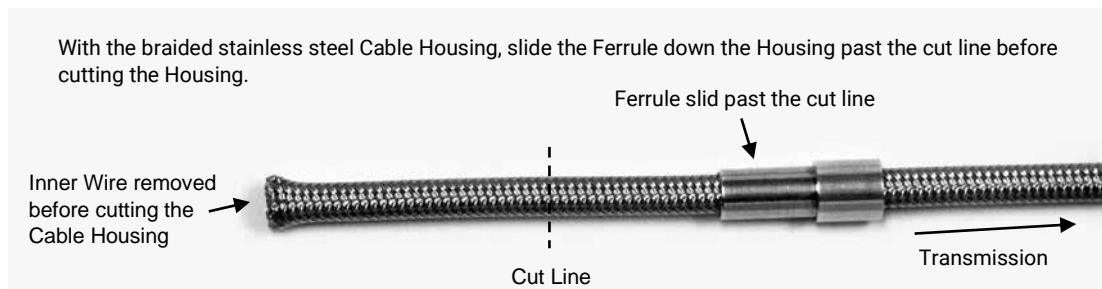

Figure 7
- Route the cable housing up to the kickdown cable adjuster. Make sure that the inner wire is removed from the cable housing! If the cable housing is braided stainless steel, slide the ferrule down the housing towards the transmission, away from the end that is being cut. Fig. 7 **DO NOT remove the ferrule from the braided stainless steel housing!**